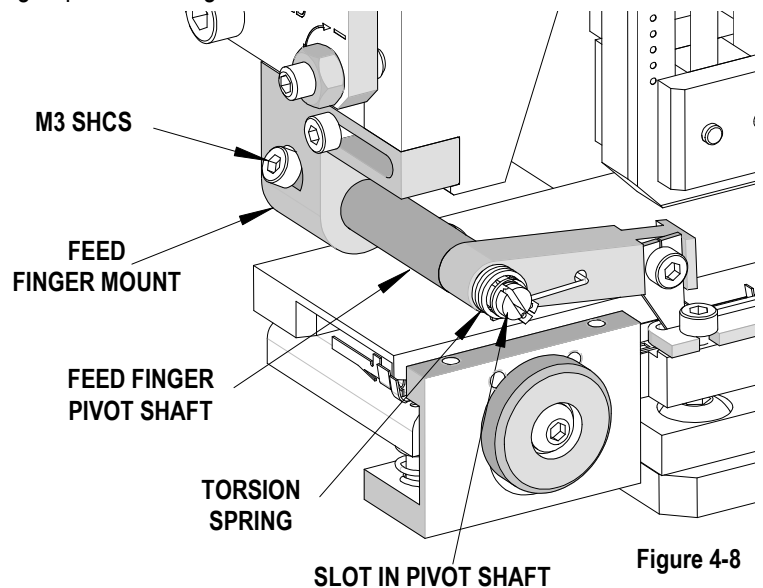

Figure 4-8
2. Use a small regular screwdriver in the slot of the feed finger pivot shaft to keep the torsion spring from unwinding. See Figure 4-8.